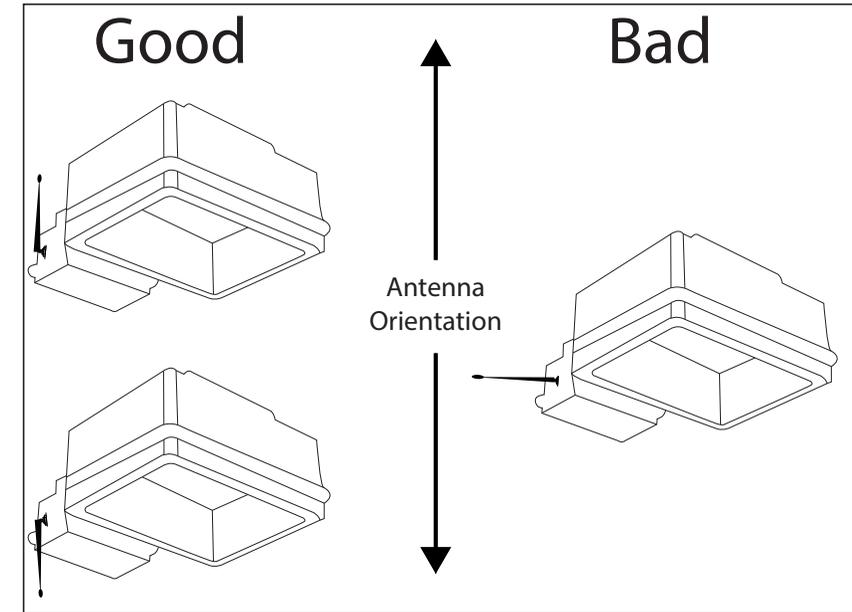

Figure 1 - Proper Antenna Installation
For standard installation, place the light controller in the desired location inside the fixture and secure it using (4) #4 machine screws. Make sure the head of the screw does not extend outside the silk-screened circular pattern on the printed circuit board at each hole location. A nylon standoff at least 1/4" in length should be used between the board and the mounting surface to prevent shorts. Prior to permanently mounting it, verify the antenna can be mounted external to the fixture and allows adequate room for connecting the coax cable from the DIM10-283-20 to the antenna. Also make sure the antenna can be oriented vertically and is free from blockage by any surrounding metal. (see Figure 1).